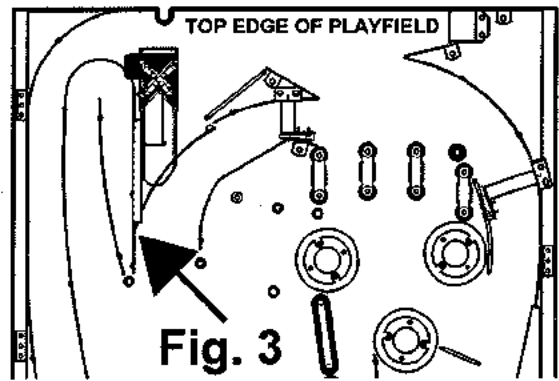

Fig. 3
Step 5: Check above the playfield to ensure the Diverter Paddle Gate in the "Rest Position" is as close to the Left Flat Rail as possible without touching it. Reference Fig. 3.